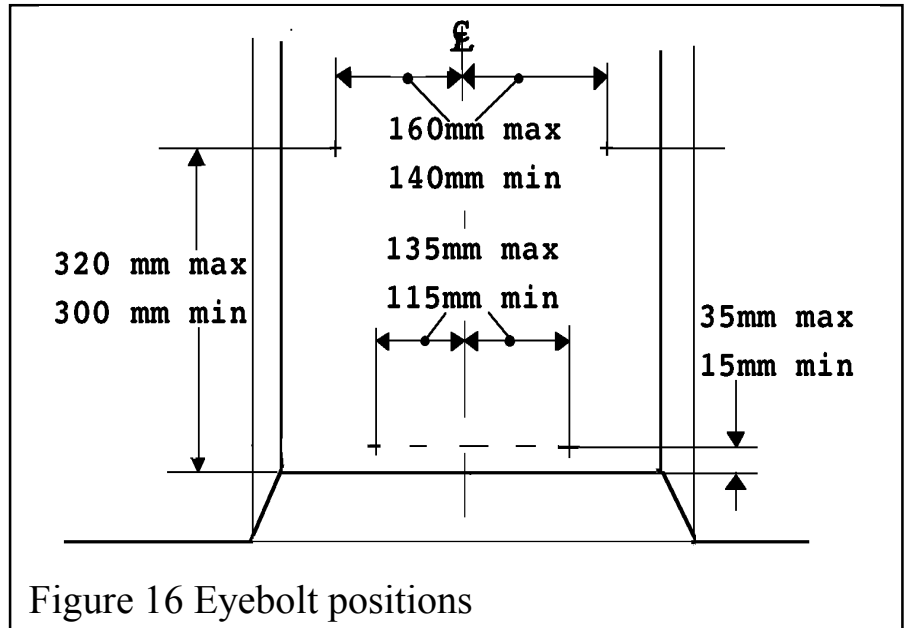

Figure 16 Eyebolt positions
1. Drill four holes in the rear wall of the fireplace for the eyebolt plugs. The holes should be drilled within the range of positions shown in figure 16 using a no.12 masonry drill. The holes should be equidistant each side of the centre line of the fireplace to ensure that the appliance finishes centrally in the opening when tension is applied to the cables.